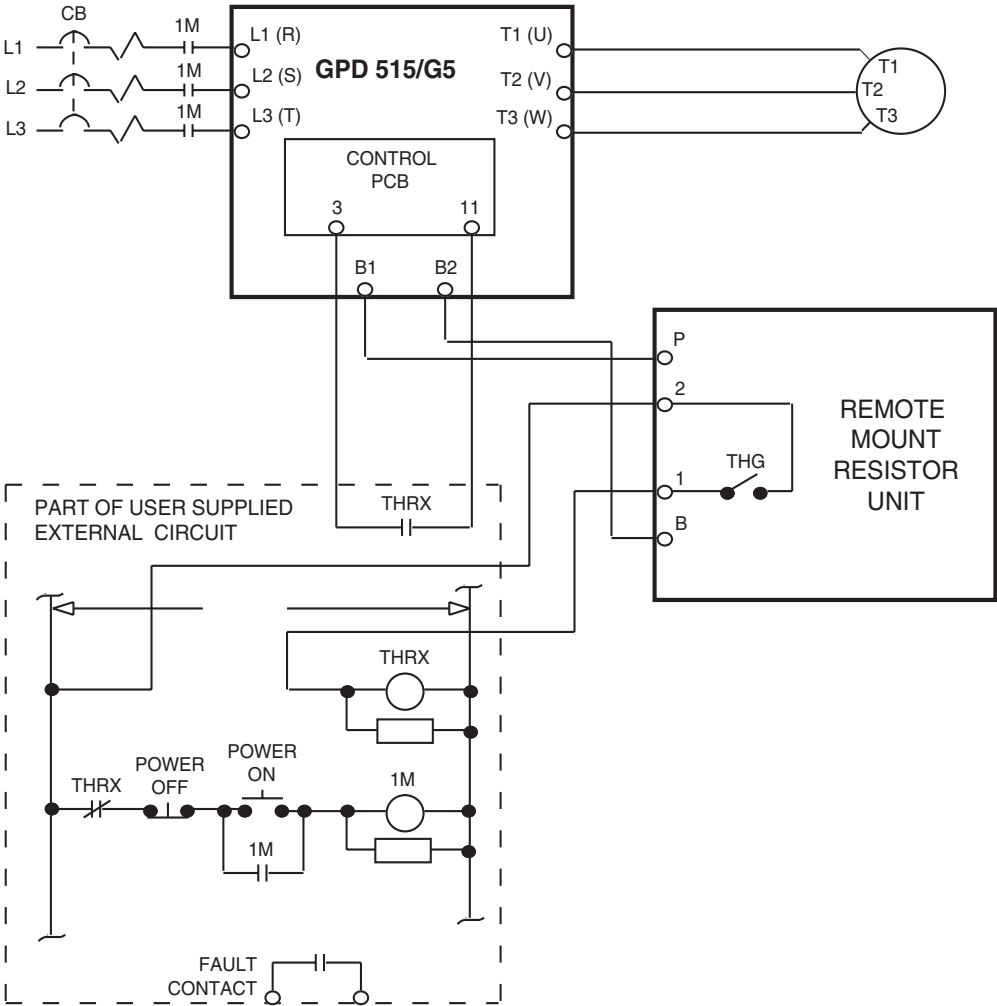

Figure A6-3. Wiring Remote Mount Resistor Unit to Drive (GPD515C-A003 thru -A033, -B001 thru -B034, C003 thru C032)
2. Remove the Remote Mount Resistor Unit cover to access its terminal block. Connect the Remote Mount Resistor Unit to the drive and to external control circuitry according to the chart at right and Figure A6-3.